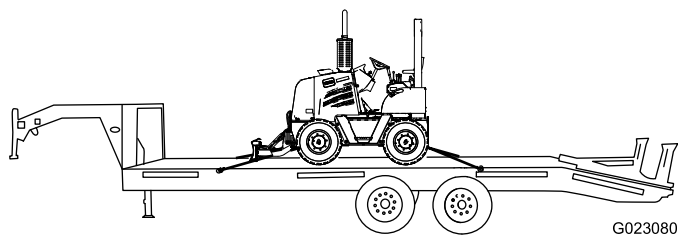

Figure 30
9. Fasten the front of the machine to the trailer using chains and a binder (Figure 30).
10. Fasten the rear of the machine to the trailer using chains and a binder (Figure 30).